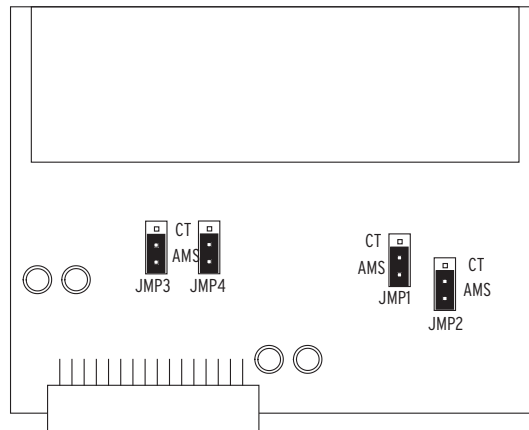

Figure 10.2 Jumpers on Current Card to Change to Low-Level Injection
- Step 1. Loosen eight (8) mounting (and one ground) screws on the back and remove the back cover.
- Step 3. Locate jumpers **JMP1** through **JMP4** and change them from the position labeled **CT** (Normal position) to position labeled **AMS**, as shown in Figure 10.2 (Low-Level Test position).